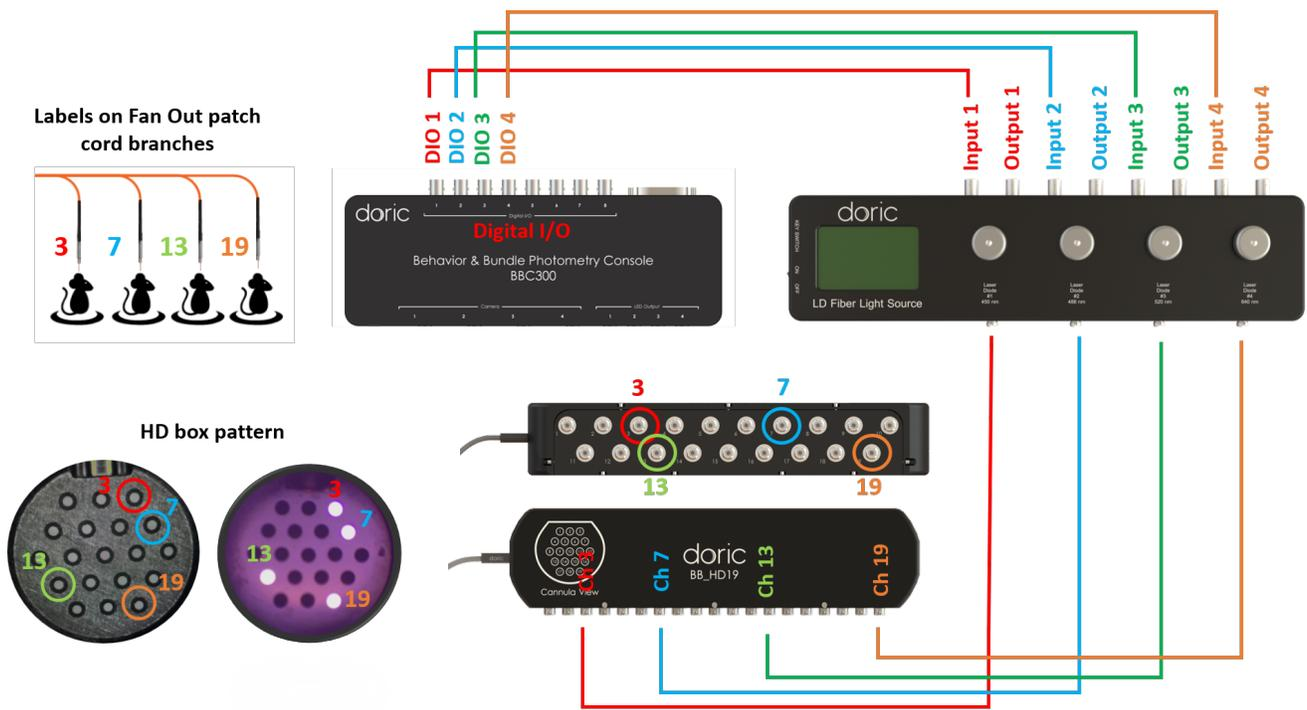

Figure 3.3: Optogenetics Wiring
So far, the wiring for the photometry recording has been completed. We can now assemble the optogenetics components, the Laser Diode Fiber Light Source (LDFLS) and HD branching box (Fig. 3.3) . Follow the steps below to connect them:
1. Begin with the LDFLS. Depending on the number of ROIs that you want to deliver optogenetics, your LDFLS can have different number of channels. Here, we will give an example for a 4-channel LDFLS (Fig. 3.3). Using BNC cables, connect 4 Digital I/O channels of BBC300 console to 4 **“Input”** channels at the back of the LDFLS. We recommend connecting as:
In Fig. 3.3 image, the branching patch cord outputs are labeled as 3, 7, 13, and 19. Therefore, the LDFLS ports are connected as follow: